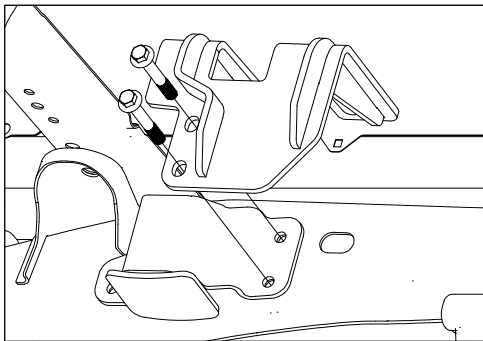

Figure F5: View looking into driver side wheel well.
- 3b. Install the front side plates (with overload brackets).** Locate the two front side plates and four 12mm x 80mm flange head bolts. Pass the top flange of the front side plates over the frame and then align the holes in the brackets with the holes in the overload bracket still attached to the frame. Install a 12mm flange head bolt into each hole in the brackets, see Figure F5. Hand tighten hardware only at this time.